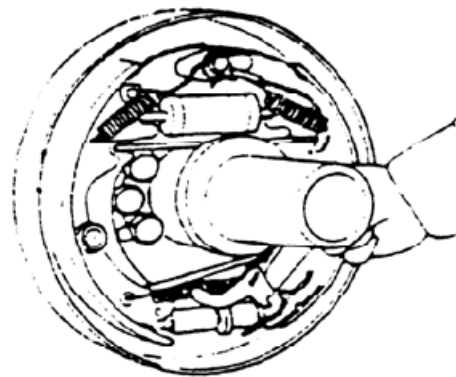

Fig. 2-23
d) Make sure that the adjusting lever end is in contact with the adjuster gear teeth. (See Fig. 2-23)